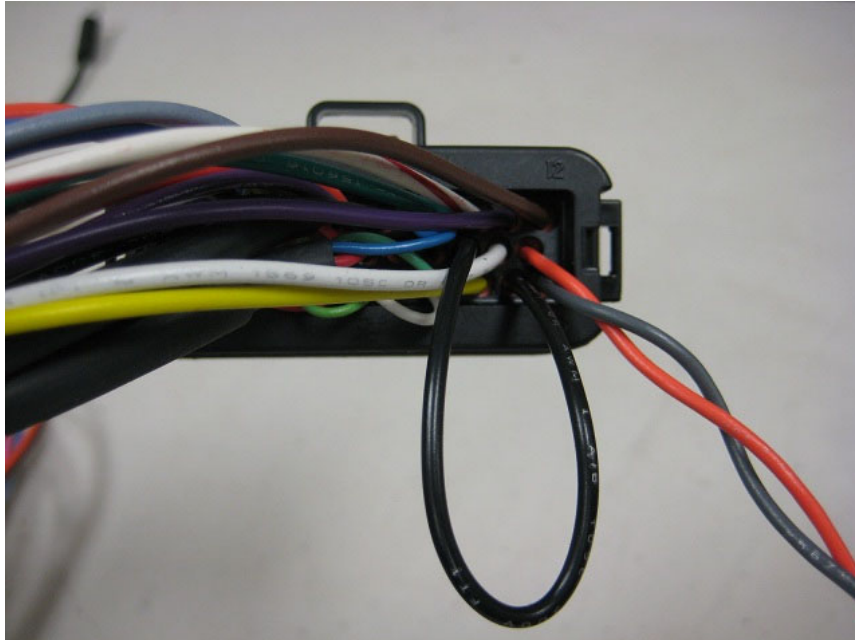

Fig. 34
9. Insert the wiring for the CANBUS connections (Orange wire into Pin #23, Grey wire into Pin #35, One end of the Black jumper wire into Pin #21 and the other end of the Black jumper wire into Pin #34). Make sure that the pins are fully seated. (Fig. 34)